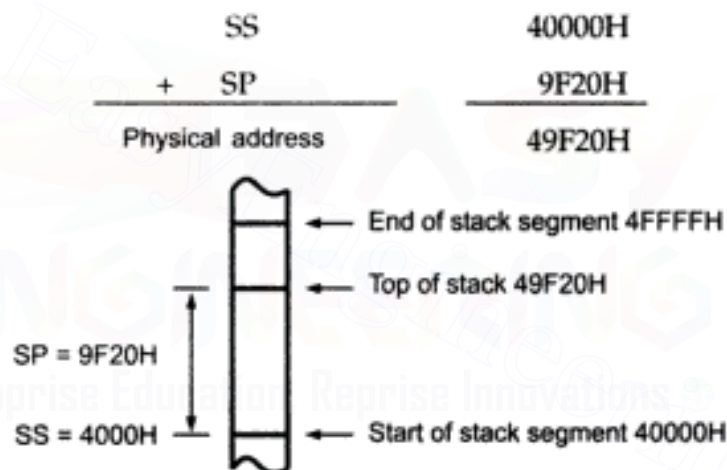

Fig. 3.9 Stack and stack pointer
The 8086/88 has a special 16-bit register, SP to work as a stack pointer. The stack pointer (SP) register contains the 16-bit offset from the start of the segment to the top of stack. For stack operation, physical address is produced by adding the contents of stack pointer register to the segment base address in SS. To do this the contents of the stack segment register are shifted four bits left and the contents of SP are added to the shifted result. If the contents of SP are 9F20H and SS are 4000H then the physical address is calculated as follows. (Refer Fig. 3.9)